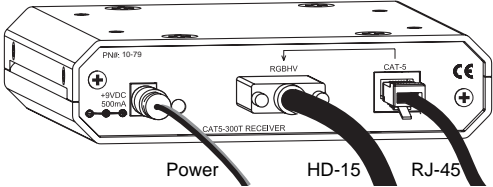

FIG. 4 Attach RJ-45, HD-15, & power connectors
- 1. Insert the RJ-45 connector into the RJ-45 (CAT-5) receptacle (FIG. 4).
- 2. Insert the HD-15 connector (see pinout in FIG. 6) into the HD-15 (RGBHV) receptacle (FIG. 4).